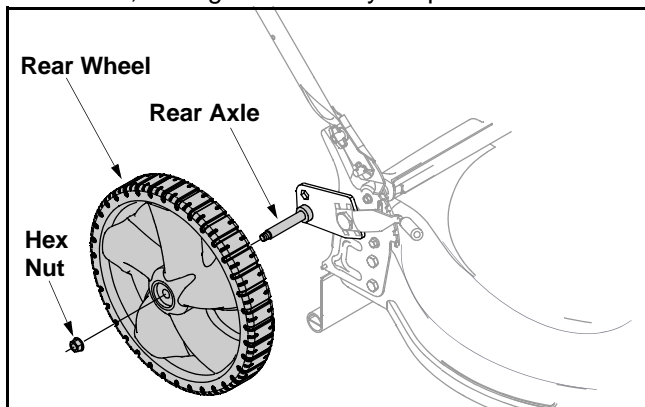

Figure 6
- Remove the hex flanged nut on the rear axle from each side and place the rear wheel on the axle. See Figure 6. Reinsert the flanged nut into the axle as shown, and tighten securely. Repeat on other side.